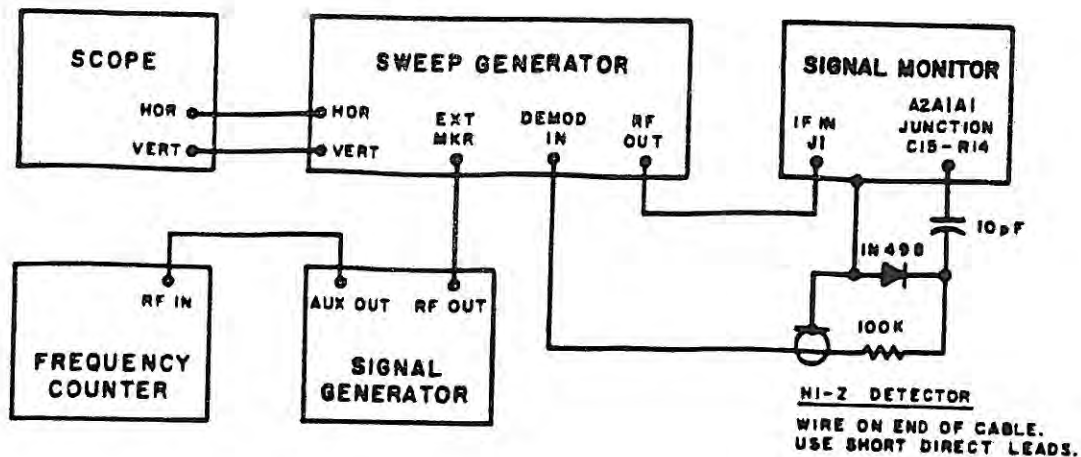

Figure A-7. Test Setup, 21.4 MHz IF Amplifier Sweep Alignment
- (1) Connect the equipment as shown in **Figure A-7**. Solder the hi-Z detector directly to the junction of C15 and R14 on the input amplifier board.
- (2) Tune the signal generator to 21.4 MHz, cw, at a level to produce a convenient marker.